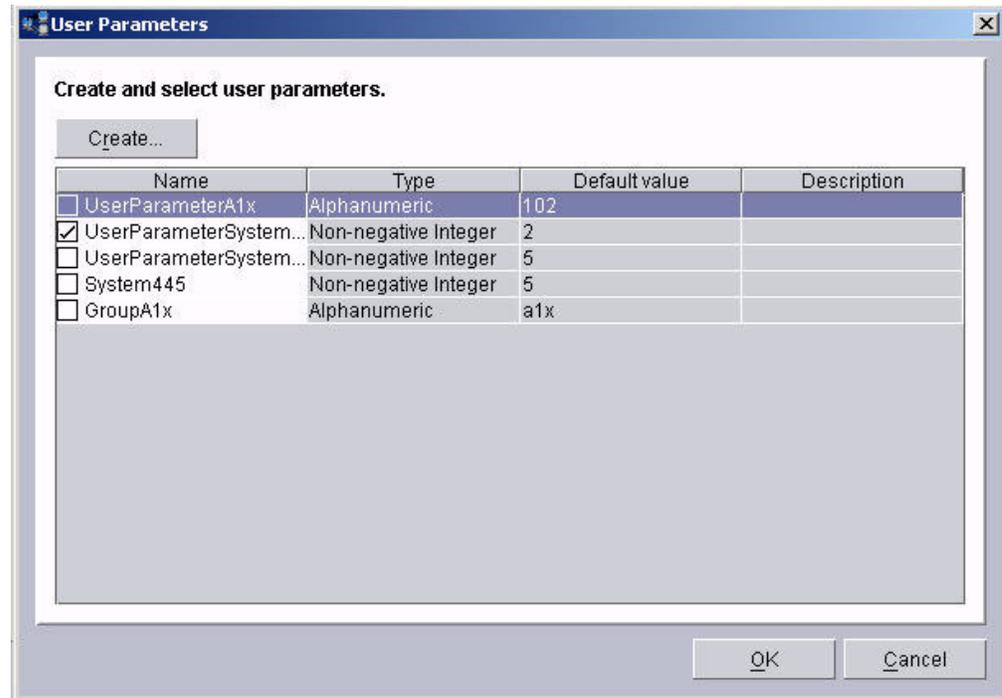

Figure 10. User Parameters window
1. In the “User parameters” pane, click **Select**. The User Parameters window opens (see Figure 10).